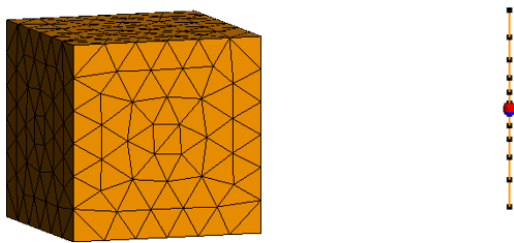
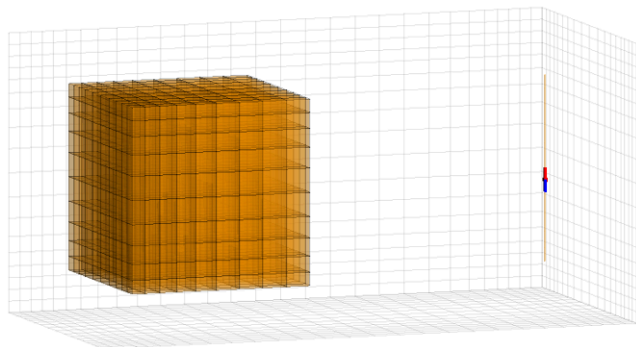

Figure 515: A dipole and cuboid discretized for a source-based solution.
Figure 516: A dipole and cuboid discretized for a field-based solution.
Consider a dipole and cuboid in Figure 515. In the source method, only the surfaces of the model are discretized. Here the cuboid is discretized into triangles and the dipole into wire segments. A surface mesh could also consist of quadrangles.
In field methods, the whole solution space is discretized into, for example, voxels (small cuboids shown in Figure 516) or it could be tetrahedra. The field-based mesh is displayed partially transparent to show that the internal volume of the cuboid is meshed. In addition, the surrounding free-space is also meshed, but only the mesh of the outer boundary of free-space is displayed (also transparent).
**Note:** For the source-based mesh displayed in Figure 515 the chosen source-based solution method is the method of moments and for the field-based in Figure 516 it is the finite difference time domain.
In field-based methods, the propagating fields, and therefore the fields' associated mesh, requires a proper termination (truncation). This is not a problem for closed regions such as waveguides or cavities where the PEC boundary provides a proper termination. However, for open radiating problems such as shown in Figure 515 and Figure 516, the mesh would be required to extend to infinity. An artificial absorbing region within the mesh is used to solve this problem. This termination or absorbing region is denoted a boundary condition. Source-based methods do not require a termination of the mesh (boundary condition). A special function (denoted the Green's function) built into the method automatically accounts for the field behaviour at infinity or any point in space.[65]